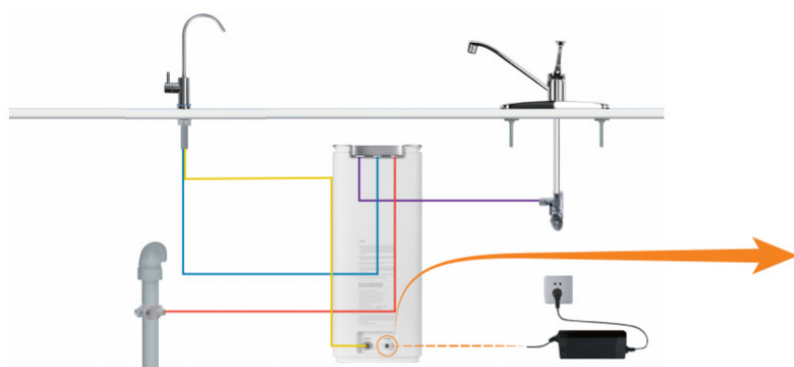

FIGURE 17
2. Connect the power adapter to the power port on the machine then plug the power adapter into the power outlet (Figure 17).